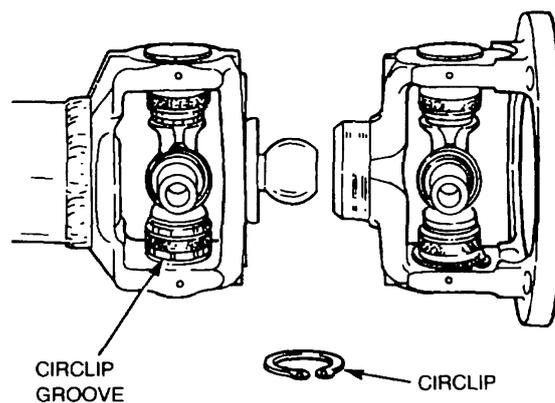

Figure 94 Circlip Installation
- b.** Install the circlips into the bearing cup grooves (Figure 94).